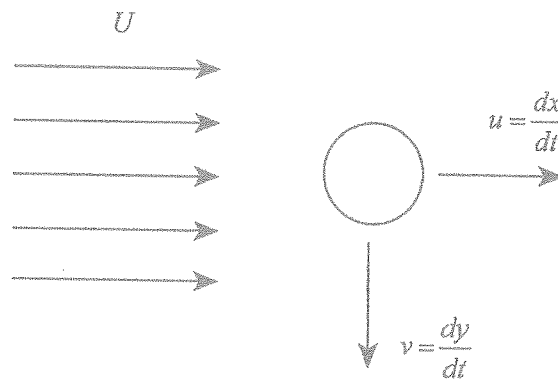

Figure Q4
- b) Consider motion of a spherical particle on vertical plane in a moving fluid as shown in Figure Q4. Let the fluid flows at a uniform velocity  $U$  in horizontal direction. Derive an equation for motion of the particle in  $x$  (horizontal) direction by clearly stating the assumptions you made. Drag force on the particle body is given by  $F_D = \frac{1}{2} \rho V_r^2 A C_D$ , where  $\rho$ ,  $V_r$ ,  $A$  and  $C_D$  denote usual notations for density of the fluid, resultant velocity of the spherical particle, projected area of the particle and drag coefficient respectively.